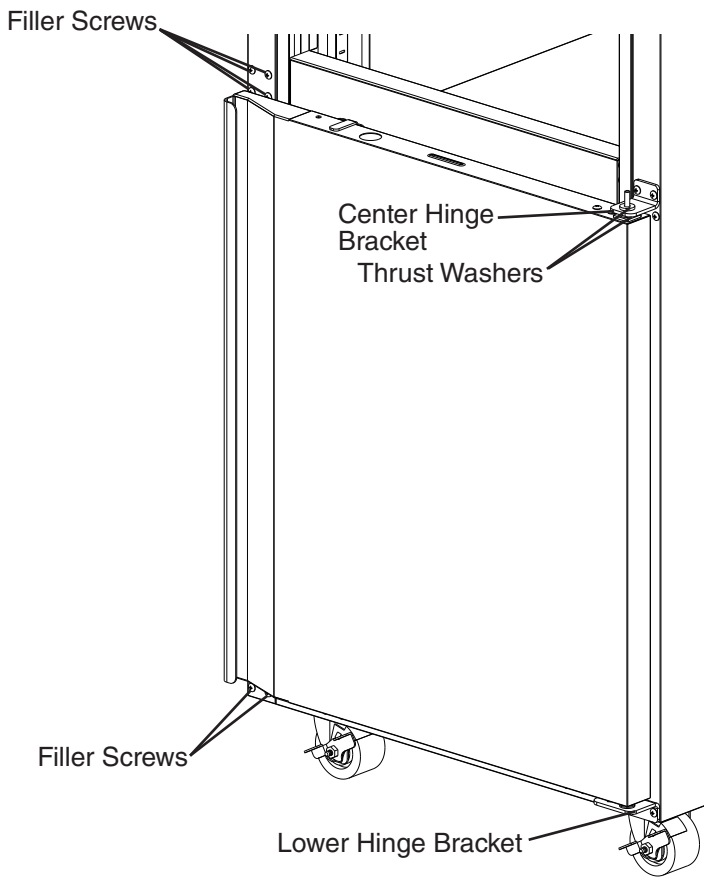

Fig. 23
- 6) While maintaining a hold on the lower door, remove the lower hinge bracket from the cabinet, then lower the door off the center hinge bracket and set aside. See Fig. 23. Retain the center hinge thrust washers for opposite side installation.